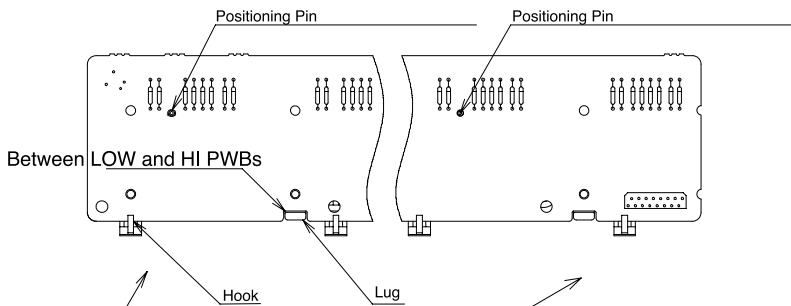
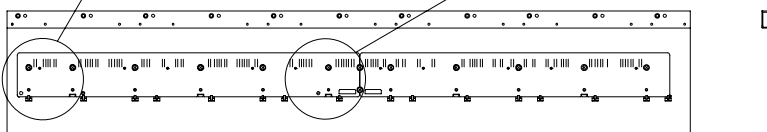

Fig.3
Fig.4
2. Aligning the cutouts in the PWB with the lugs on the chassis, put one side of the PCB into the chassis hooks. Place the PCB on the Chassis so that the chassis positioning pins fit into the positioning holes. (See fig.3) At this point, the chassis positioning reference pin should first be fitted into the hole. There are two PCBs, LOW and HI, as shown in fig.4. The Chassis positioning reference pins are located near the connector each of the LOW and HI PCBs.